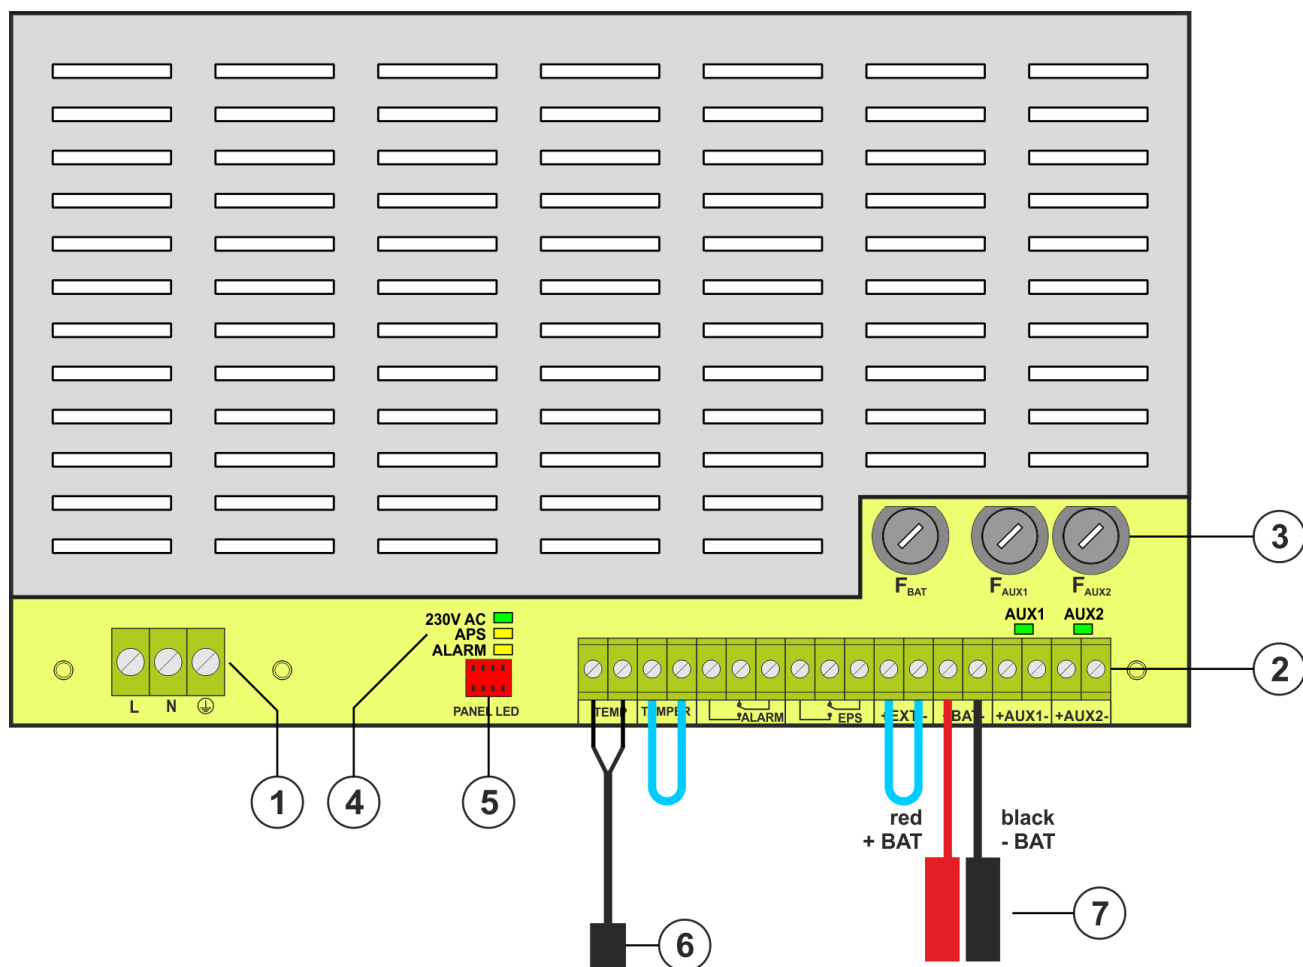

Fig. 2. The view of the power supply module based on the EN54C-2A7.
Table 1. Elements of the PSU (Fig. 2).
①	L-N-PE 230 V power connector with protective terminal
②	Terminals: TEMP – input of the battery temperature sensor TAMPER – input of the microswitch tamper Closed input = no indication Open input = alarm ALARM – technical output of collective failure of the PSU - relay type EPS – technical output of AC power failure indication open = AC power failure closed = AC power - O.K. EXTi – external failure input Closed input = no indication Open input = alarm +BAT- – terminals for connecting the battery +AUX1- – AUX1 power output (- AUX=GND) +AUX2- – AUX2 power output (- AUX=GND) CAUTION! In Fig.2 the set of contacts shows a potential-free status of the relay, which corresponds to power supply failure.
③	Fuses: F_{BAT} – fuse in the battery circuit, F_{AUX1} – fuse in the AUX1 output circuit, F_{AUX2} – fuse in the AUX2 output circuit, The fuse values are given in table 4 - "Electrical parameters".
④	LEDs – optical indication: 230 V – voltage in the 230 V circuit APS – battery failure ALARM – collective failure AUX1 – AUX1 output voltage (at the AUX1 connector) AUX2 – AUX2 output voltage (at the AUX2 connector)
⑤	PANEL LED – connector to the external LED indicators
⑥	Battery temperature sensor
⑦	Battery connectors ; positive: +BAT = red, negative: - BAT = black
①	PSU (tab. 1, Fig. 2)
②	Battery temperature sensor
③	Battery connectors; positive: +BAT = red, negative: - BAT = black
④	Place to install the EN54C-LB4 or EN54C-LB8 fuse module
⑤	TAMPER; microswitch (contacts) of antisabotage protection (NC)
⑥	Fitting battery
⑦	Embossing for cable gland
⑧	Embossings for concealed wires
⑨	Lock
CAUTION! In Fig.2 the set of contacts shows a potential-free status of the relay, which corresponds to power supply failure.